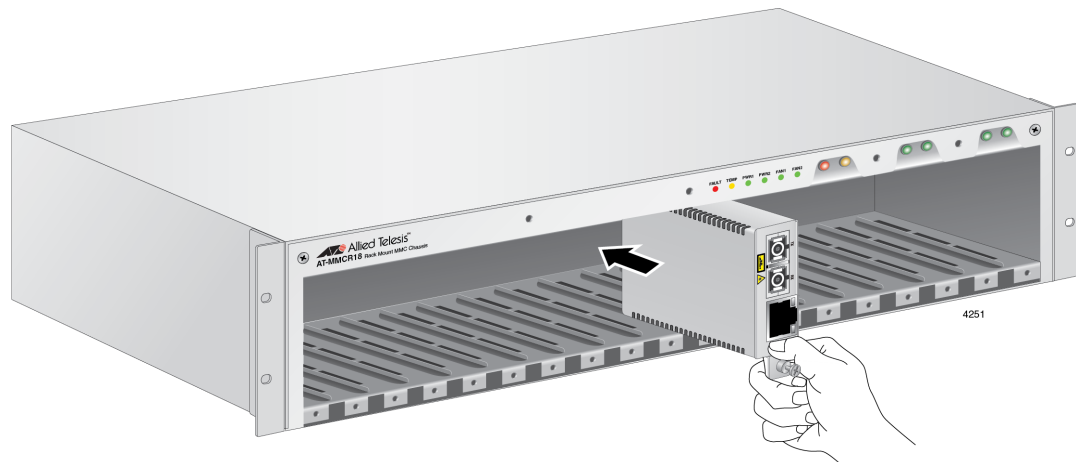

Figure 17. Installing the Media Converter in the Chassis
4. Slide the media converter assembly into the chassis as shown in Figure 17.